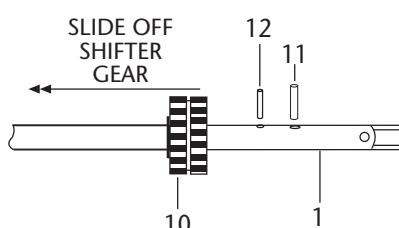

Figure 4
3. Slide off the gearbox cover (**Item 3**). Make sure that the shifter shaft stays in low gear and does not come out with the gearbox cover. (Otherwise, the ball and spring will be lost in the grease, see **Items 8 and 9, Figure 4**). Then, remove the six gearbox cover screws (**Item 4**) and gearbox cover (**Item 3**).
6. Remove the crankshaft (**Item 1**) by tapping it out from behind the mounting plate (see **Figure 4**). Be prepared to catch the detent ball (**Item 8**) and spring (**Item 9**) as you remove the crankshaft.